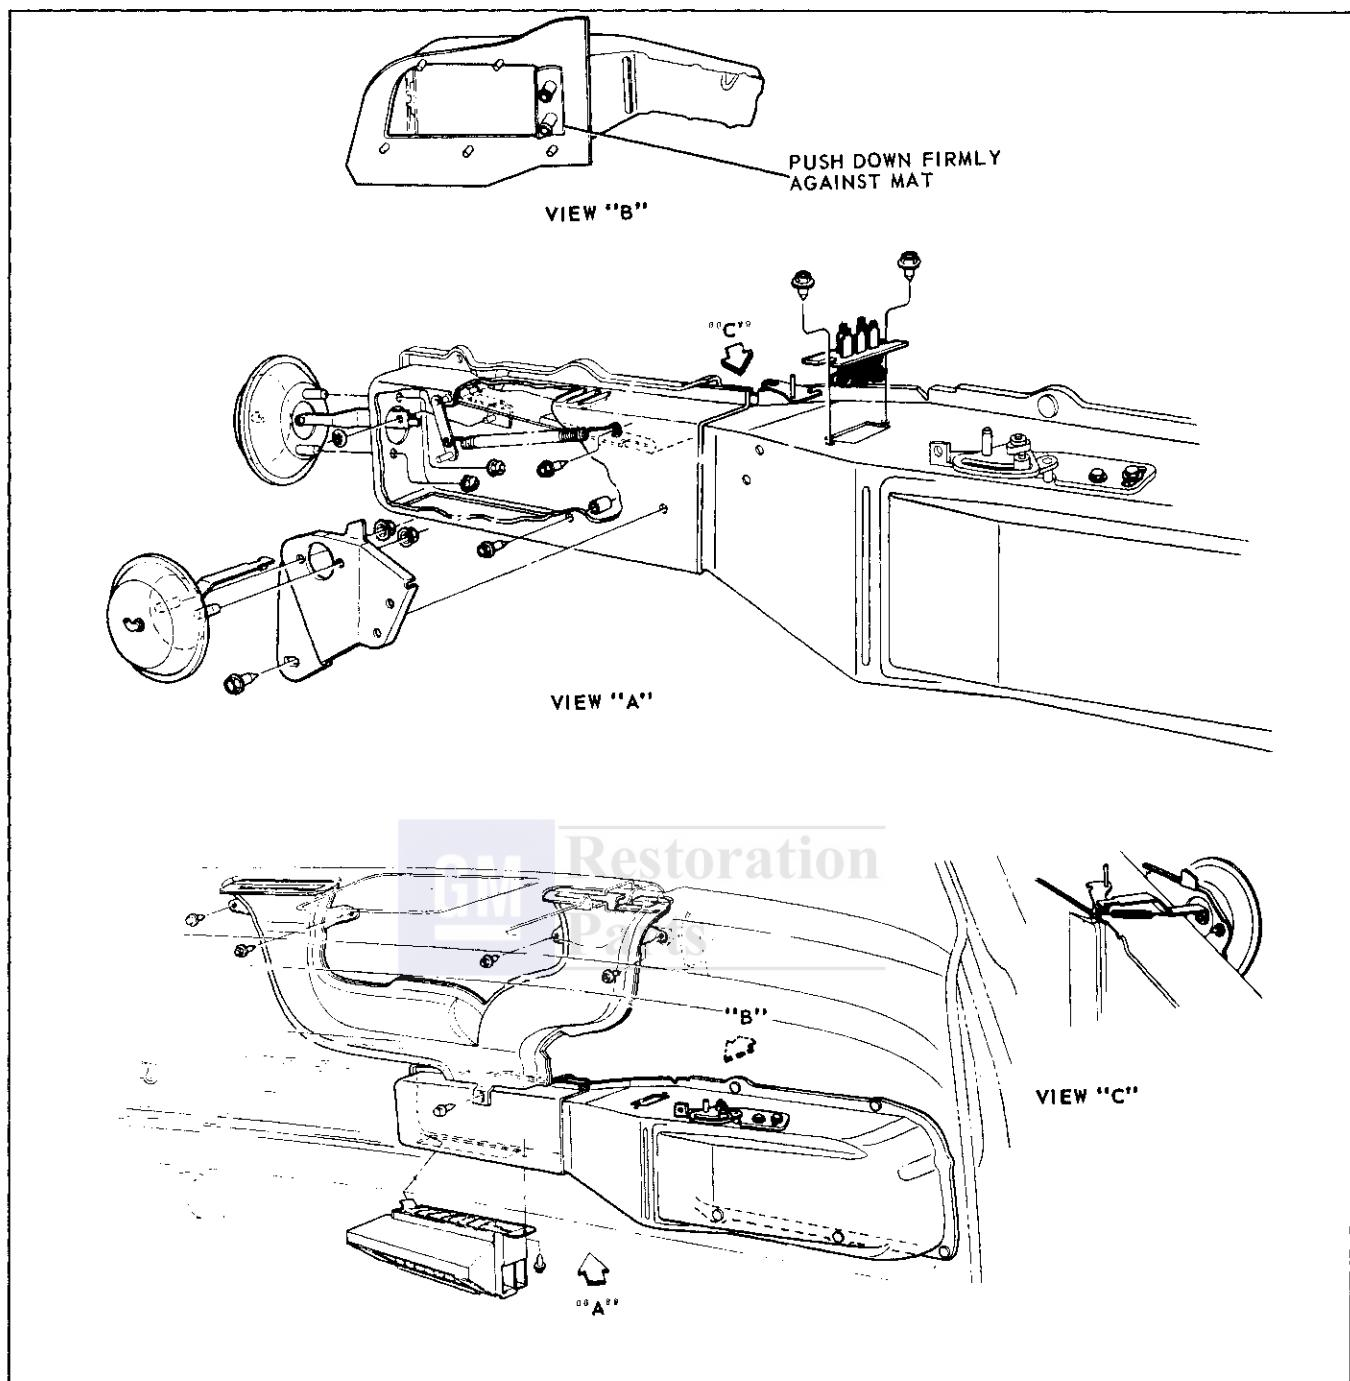

Fig. 1-6 Control Diaphragms—Pontiac
1. Remove blue vacuum supply hose from diaphragm (Fig. 1-6).
1. Remove green supply hose (Fig. 1-6).